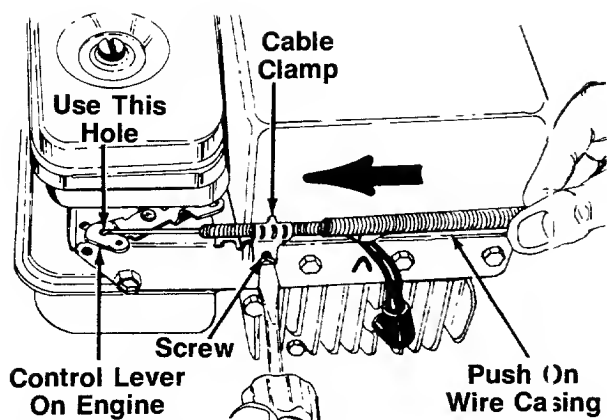

FIGURE 6A.—Models 072R & 082R
2. The throttle control cable is attached to the upper handle. Route the throttle control cable under the lower handle and inside the handle mounting bracket. Hook the "Z" end of the throttle control cable into the arm on the control lever on the engine which has two holes, using the **outside** hole as shown in figure 6A.
3. Remove the screw on the cable clamp on the engine shown in figure 6A. Slip the control casing under the clamp. Replace the screw, but do not tighten (cable must still move freely beneath the clamp).
4. Slide the control lever on the engine as far toward the **outside** of the engine as it will go. Push the wire casing on the throttle control cable toward the control lever on the engine as shown in figure 6A as you tighten the screw on the cable clamp to secure the cable in this position.